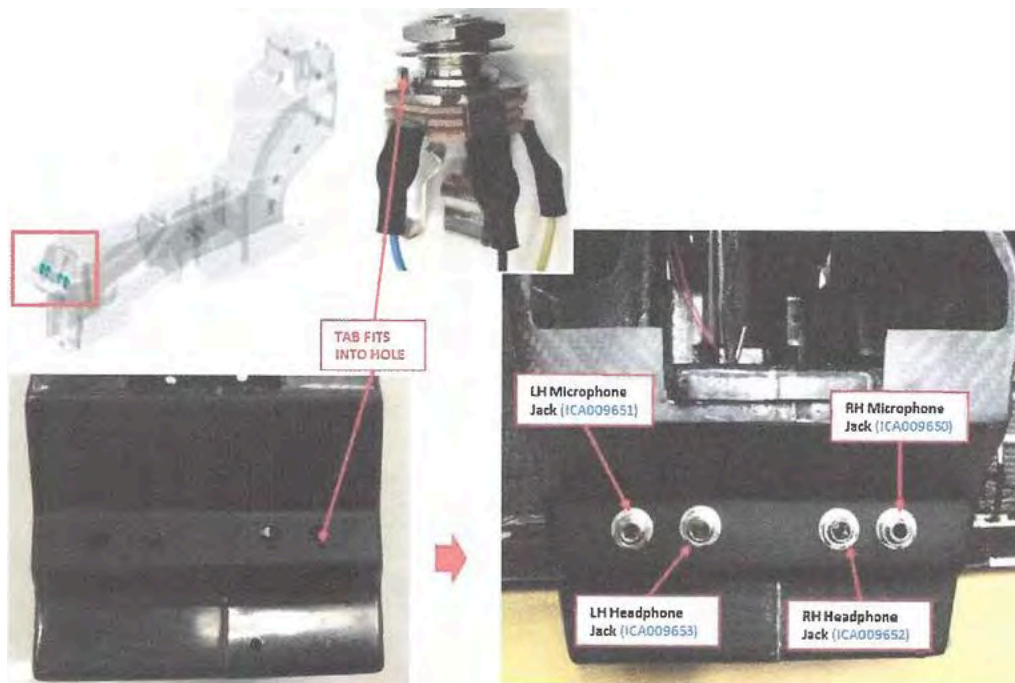

FIGURE 14-24
1. Install LH/RH microphone jacks. (See Figure 14-24.)